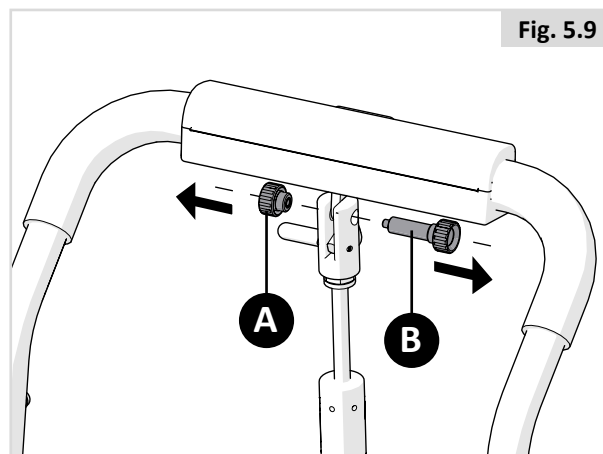

Fig. 5.9
To fold your backrest (applies to manual adjustable and power reclining backrest) release plastic thumbscrew (A) and pull out other thumbscrew and axle (B) (Fig. 5.9).